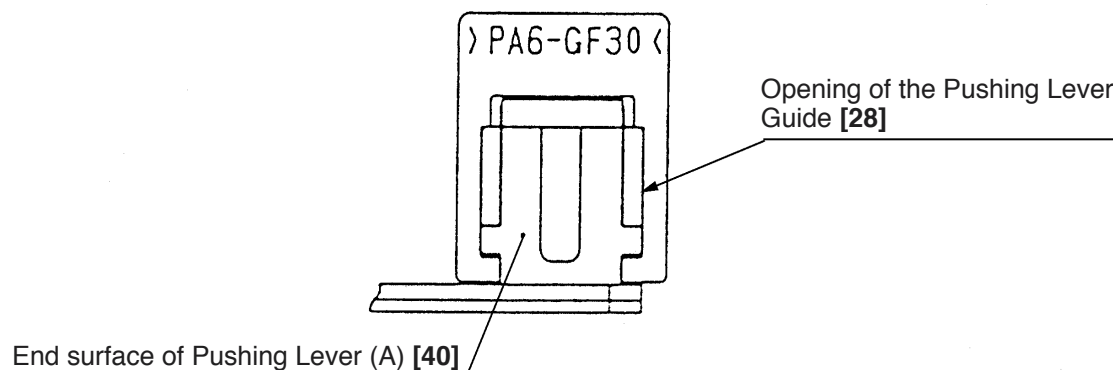

Fig. 23
- Before reassembly, check that the end surface of Pushing Lever (A) [40] is fitted in the opening of the Pushing Lever Guide [28] (Fig. 23).
- After reassembly, check that Pushing Lever (A) [40] operates smoothly.